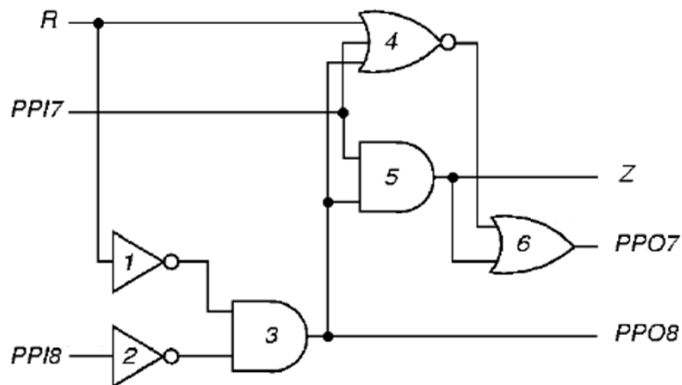

FIG. 3A
- 3A. Find combinational controllability and observability measures of all the nodes for the circuit in **FIG. 3A**.